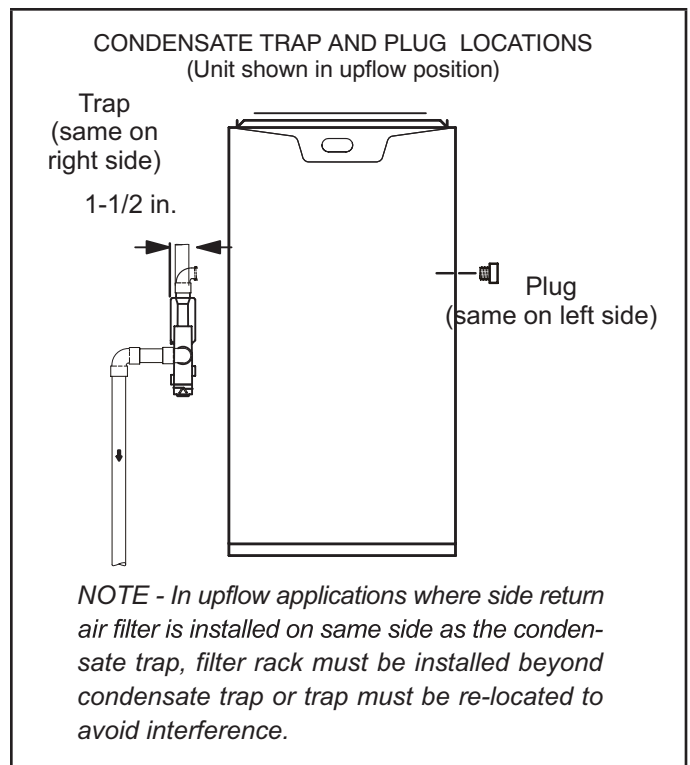
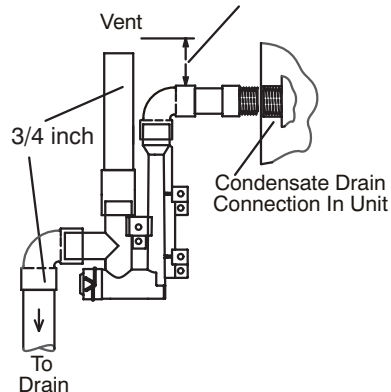

FIGURE 34
FIGURE 42
This unit is designed for either right- or left-side exit of condensate piping in upflow applications. In horizontal applications, the condensate trap must extend below the unit. An 8" service clearance is required for the condensate trap. Refer to FIGURE 34 and FIGURE 36 for condensate trap locations. FIGURE 42 shows trap assembly using 1/2" PVC or 3/4" PVC.
- 3 - Install the cap over the clean out opening at the base of the trap. Secure with clamp. See FIGURE 42.
- 4 - Install drain trap using appropriate PVC fittings, glue all joints. Glue the provided drain trap as shown in FIGURE 42. Route the condensate line to an open drain. Condensate line must maintain a 1/4" downward slope from the furnace to the drain.